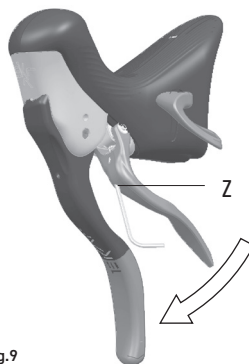
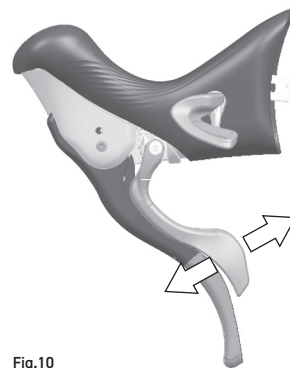

Fig.9
Fig.10
The position of the external lever (closer to or further from the brake lever) can be adjusted by moving the grub screw present inside the Z hole (Fig. 9/10). The correct position of the outer lever must be such that the lever almost skims but does not actually touch the rubber pad on the brake lever.
- Turn the Allen key in a clockwise direction (Fig. 9) if you need to move the lever further from the brake lever (Fig. 10) or counter-clockwise if you need to bring the lever closer.